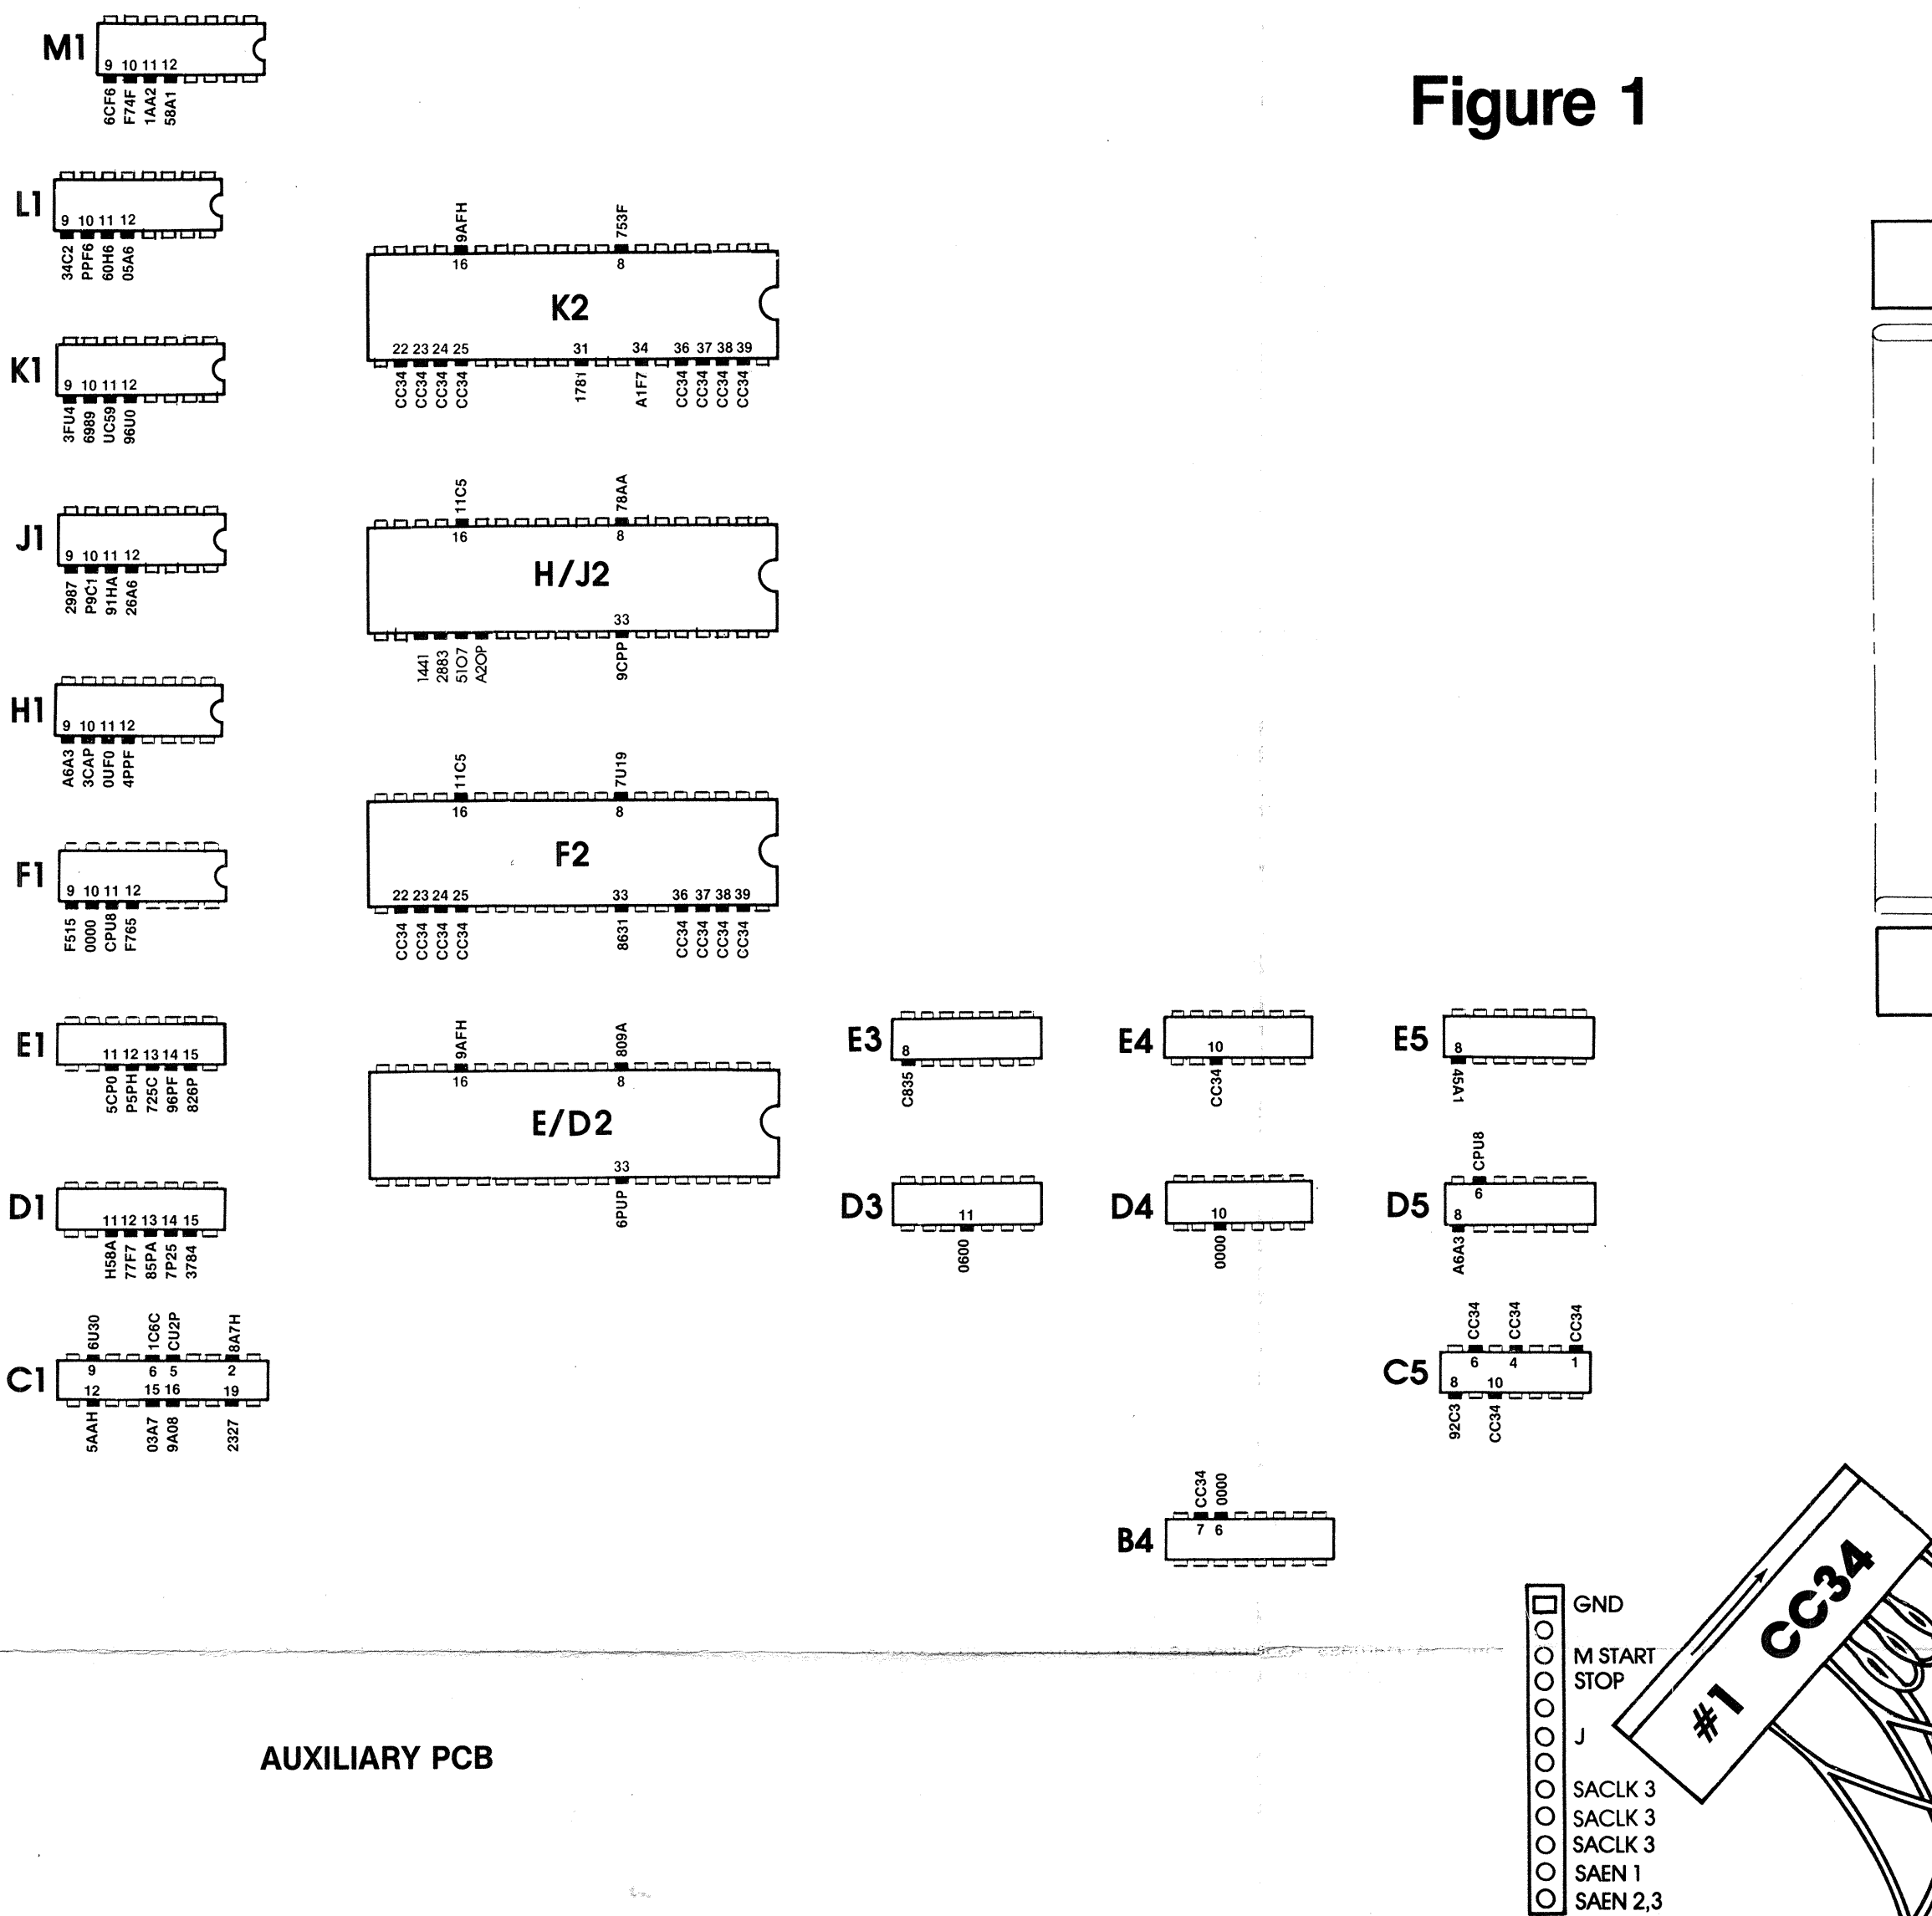

**Figure 1**
6. Probe for signatures as shown in Figure 1 to the left. If all signatures are correct, continue with D. Signature Analysis Test #2A Procedure. If any signatures are incorrect, probe for signature of CC34 on +5V test point. If not CC34, remove jumper from pin 1 of IC B6. Return to B. Signature Analysis Setup Procedure and once again do step 3. If +5V is CC34, refer to G. Isolating a Failing Circuit.